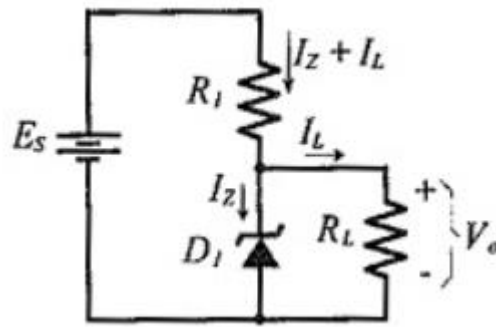

Fig.1.31. Zener Diode Voltage regulator
- When a Zener diode regulator is required to supply a load current (I_L), as shown in Fig. 1.31, the total supply current (flowing through resistor R_1) is the sum of I_L and I_Z . Care must be taken to ensure that the minimum Zener diode current is large enough to keep the diode in reverse breakdown.
- In some cases, the load current in the type of circuit shown in Fig. 1.31 may be reduced to zero. Because the voltage drop across R_1 remains constant, the supply current remains constant at,